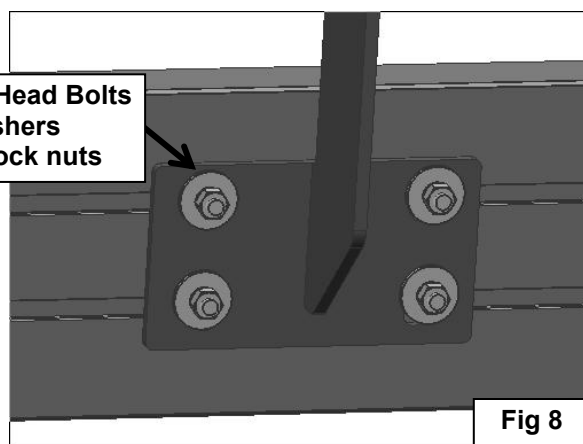

Fig 8
8. Select a Running Board. Slip(4)6mm Square Head Bolts into each bottom channel(**Figure 7**). Carefully position the Running Board onto the (2) Mounting Brackets. **IMPORTANT:** Do not slide, (front to back), the Running Board on the Brackets or damage to the finish may result. Attach the Running Board to each Mounting Brackets with(4) M6 Square Head Bolts,(4)M6 flat washers and (4)M6 nylon lock nuts **(Figures 8)**. Do not tighten at this time.